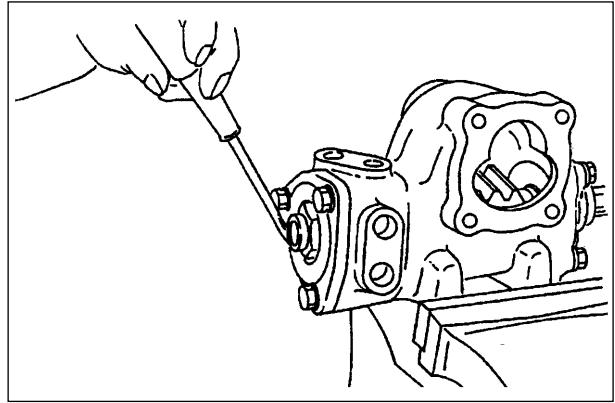
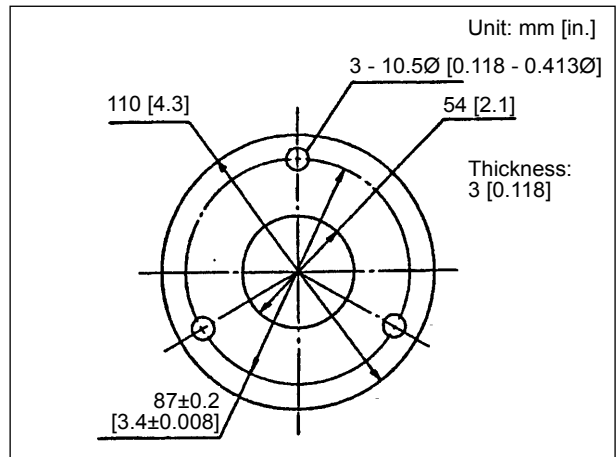

Fig. 3.338
Fig. 3.339
- ⑤ Install the jig (Figure 3.339), as shown in Figure 3.338. Raise the staked portion of the lock nut using a screwdriver and remove the thrust race and thrust bearing.
- ⑦ Install the jig, shown in Fig. 3.339, on the control valve. Then install the thrust race, needle bearing, and the other thrust race, in that order.